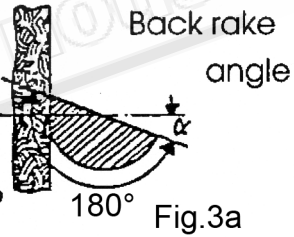

Fig.3a
8. When grinding the back rake angle, use the fine adjustment screw H over the entire range of rotation of the collet bearing (see Fig. 3a). Grinding of the back rake angle is positive controlled. The angle is required over the entire length of the cutting lip. The vertical swivel bearing, which permits the work holding fixture to be swung back, enables relief angles up to 40° to be produced, Relief angles over 40° can be obtained by additionally rotating the collet bearing in the index head. (Only for cylindrical or tapered cutter with straight end cutting edges or for pointed cutters.) Upon completion of grinding operations a very narrow land must remain at the cutting edge (see Fig. 4).